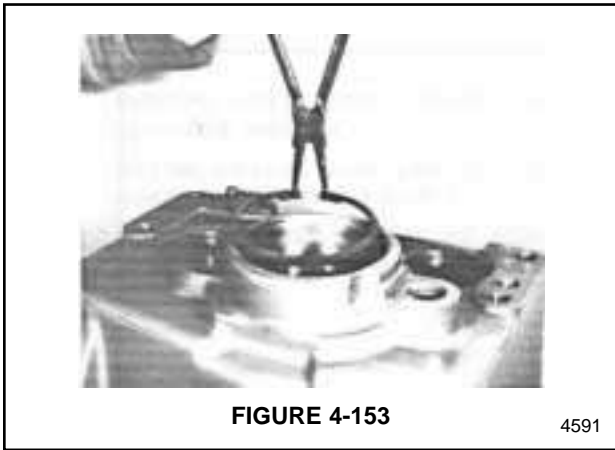

FIGURE 4-153
6. Install the snap ring. See Figure 4-153.